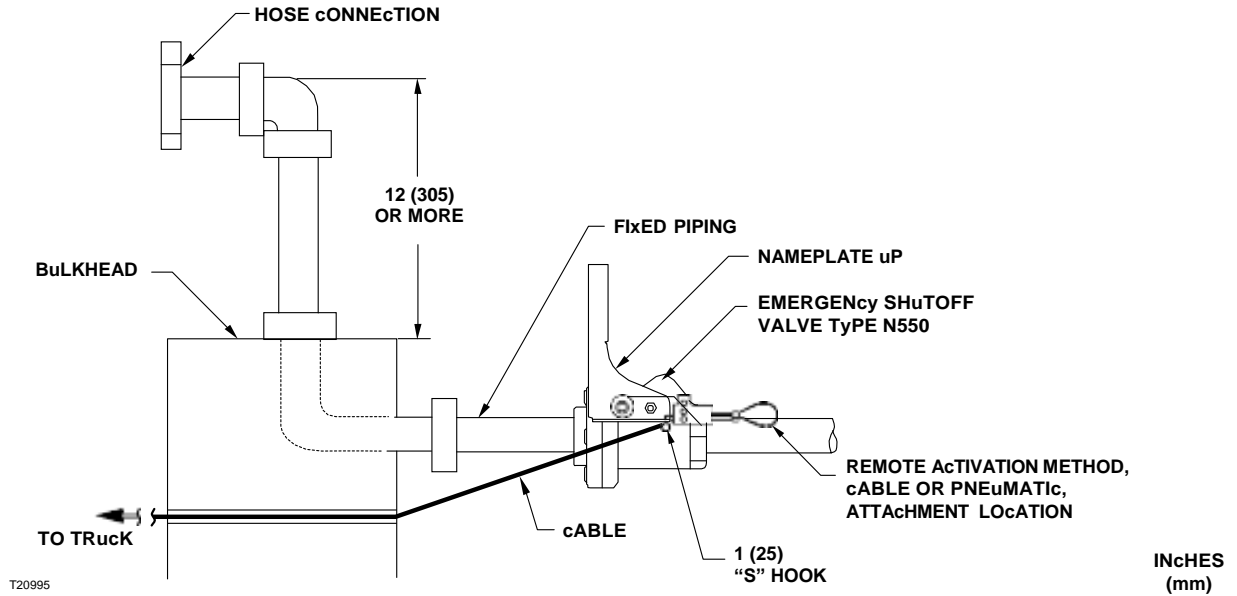

Figure 5. Motion Release Cable Installation (Optional)
- Connect a suitable release cable such as stainless steel aircraft cable to a standard “S” hook. Attach the “S” hook to the Type N550 handle as shown in Figure 5.
- The cable should run through the bulkhead just below and to the side of the pipe. The cable should be in line with the operating lever, refer to Figure 5.